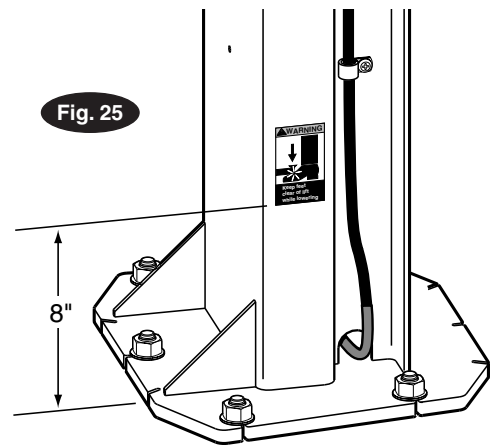

Fig. 25
16. Pinch Point Decal Location: Install enclosed pinch point decals. Place (1) decal on each column, Fig. 25. Decals should be a minimum of 8" from the bottom of decal to the ground.